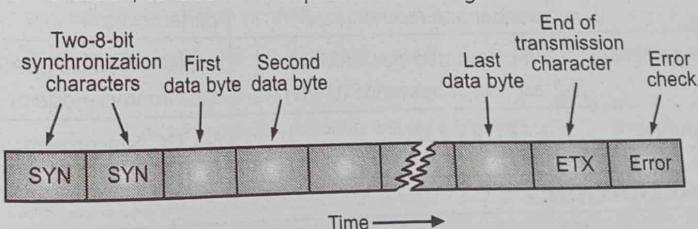

Fig. 3.4: Synchronous data transmission
- This makes synchronization between transmitter and receiver. To understand synchronous data transmission, consider an example as shown in Fig. 3.4.
- As shown in the above Fig. 3.4 each block of data contains a data of large characters.